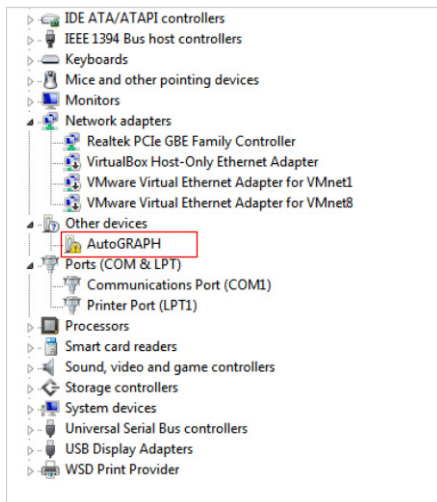

Fig.2. The device with old driver.
- Device will be automatically detected when it is connected to the PC running MS Windows 7. The Device Manager detects a new device – AutoGRAPH (Fig.2). Download drivers with MS Windows 7 support (AutoGRAPH_DRIVER_AND_GPS-MOUSE.zip) from official website of TechnoKom and install them manually.